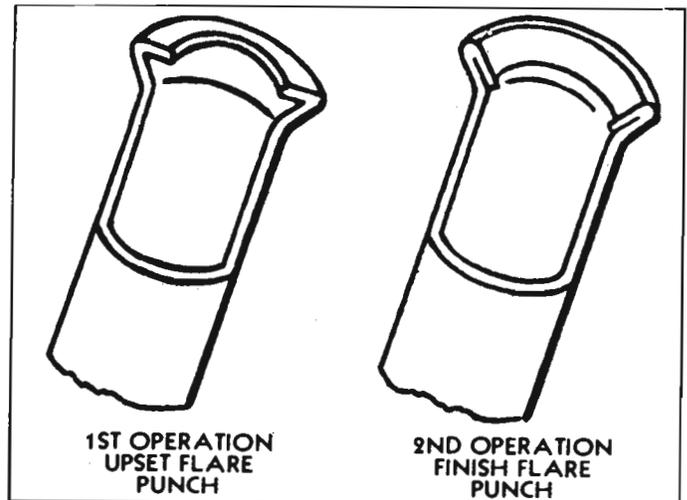

Fig. 5-12—Flaring Operation—First and Second Flare
7. To complete the flare, insert the pointed finish flare punch and the ram into the tool body. Tap the ram until a good seat is formed (fig. 5-12).